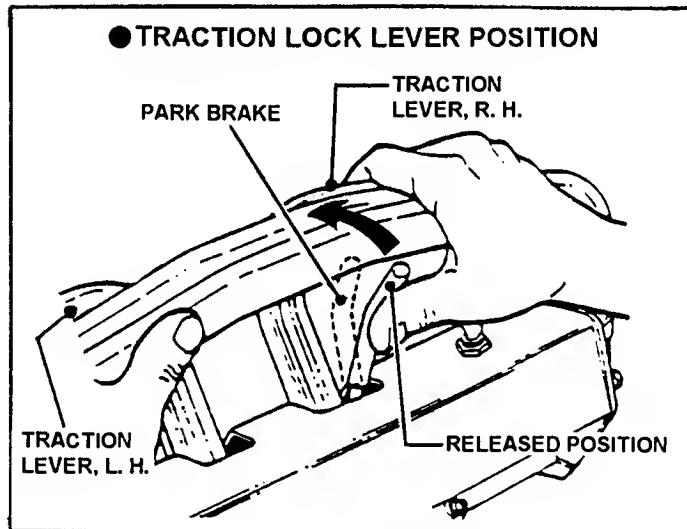

FIGURE 16
When Traction Lock Lever is placed in PARK position, both Traction Wheel Drives are disengaged and wheel brakes are set, allowing the operator to PARK THE MOWER ON LEVEL GROUND OR WHEN TRANSPORTED IN TRUCK OR TRAILER. See Figures 16 & 17.
3. To release Traction Lock, squeeze both Traction Levers firmly against the handlebar allowing Traction Lock to release. Simultaneously move both Traction Levers slowly forward, allowing machine to start forward movement. See Figure 16.